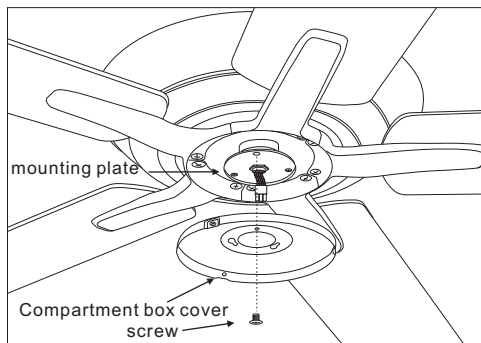

Figure 18
1. Remove 1 screw and loosen 2 screws on the mounting plate. Secure the compartment box cover to the mounting plate by tightening screws previously removed and loosened. (Figure 18)